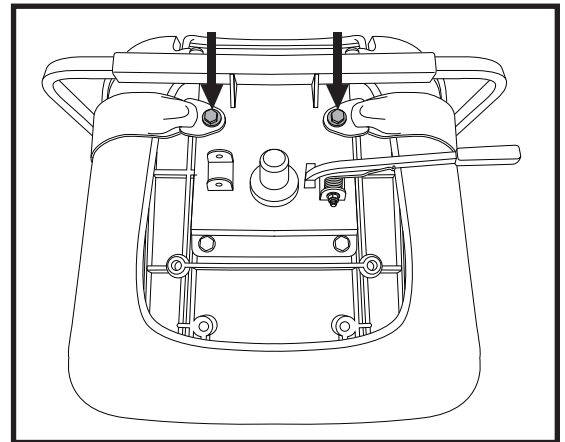

Figure 32. Positioning Belt Bolts
2. Place the seat upside down so that you can see the bottom of the seat base. See figure 32.